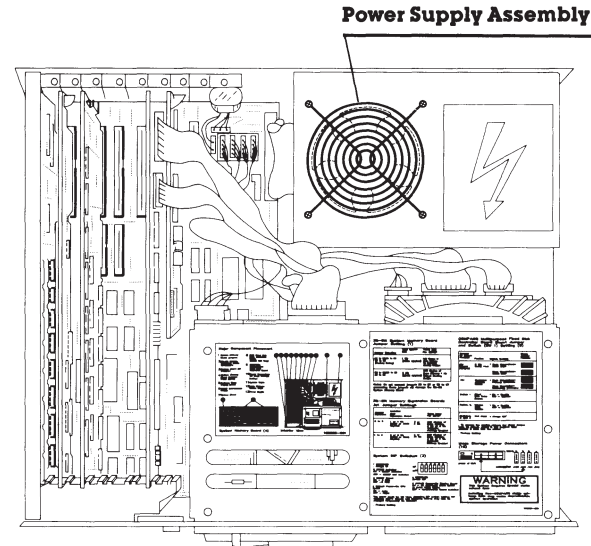

Figure 7-11. Location of the Power Supply Assembly.
2. Locate the power supply assembly (Figure 7-11).